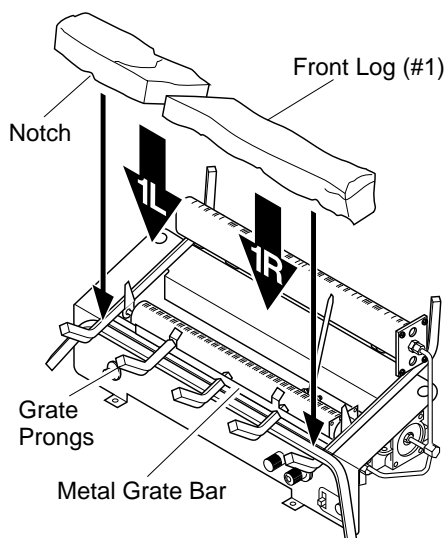

Figure 17 - Installing Front Log (#1)
1. Place front logs (#1L and #1R) on top of the grate. Make sure the notches in the bottom of the logs fit over the grate prongs (see Figure 17). Push back of logs flush with metal grate bar. *Note:* 18" model has only one front log.